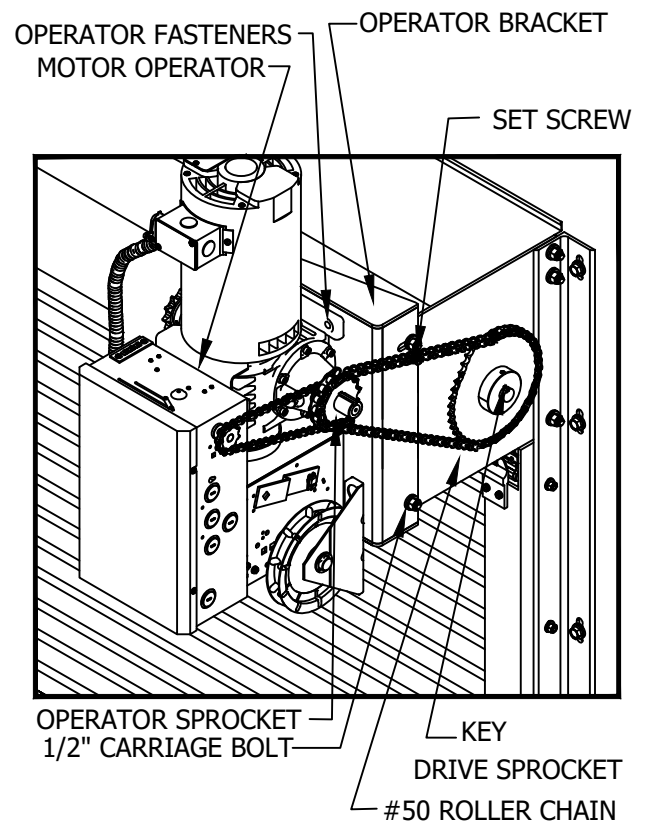

Figure 15
- Attach the operator to bracket using the supplied hex bolts, flat washers, lock washers and hex nuts as shown in Figure 15.
- Install motor operator and bracket assembly to the drive side headplate with two 1/2" carriage bolts as shown in Figure 15.